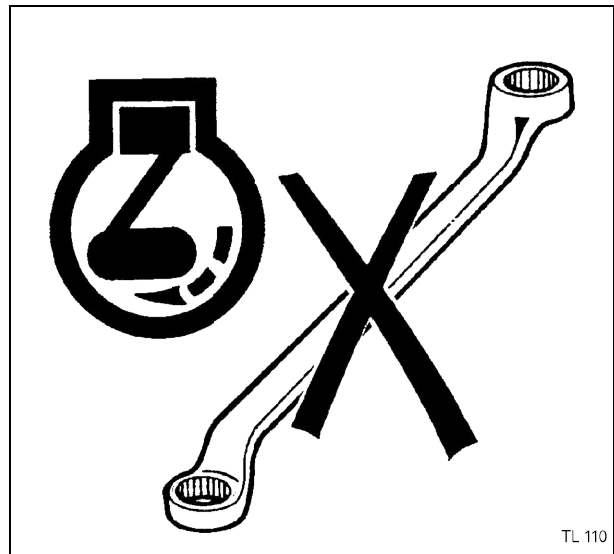

Fig. 12
- DO NOT service the tractor while the engine is running or hot, or if the tractor is in motion (Fig. 12).